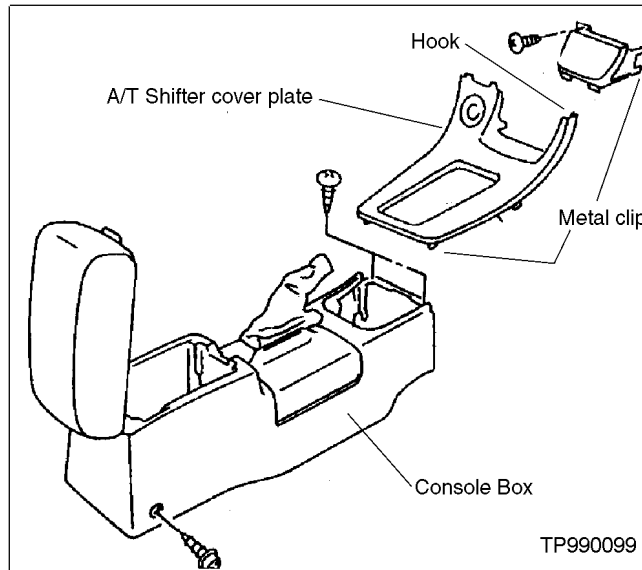

Figure 2.
1. Remove the ash tray and the shifter cover plate (see Figure 2). Exercise care when releasing metal clips so as not to damage A/T shifter cover plate.
2. Remove the console box (remove the screws under the shifter cover plate and at the rear of the console box - Figure 2).
2. Remove the ash tray unit and the shifter cover plate(see Figure 2).
3. Remove the console box (remove the screws under the shifter cover plate and at the rear of the console box - Figure 2).